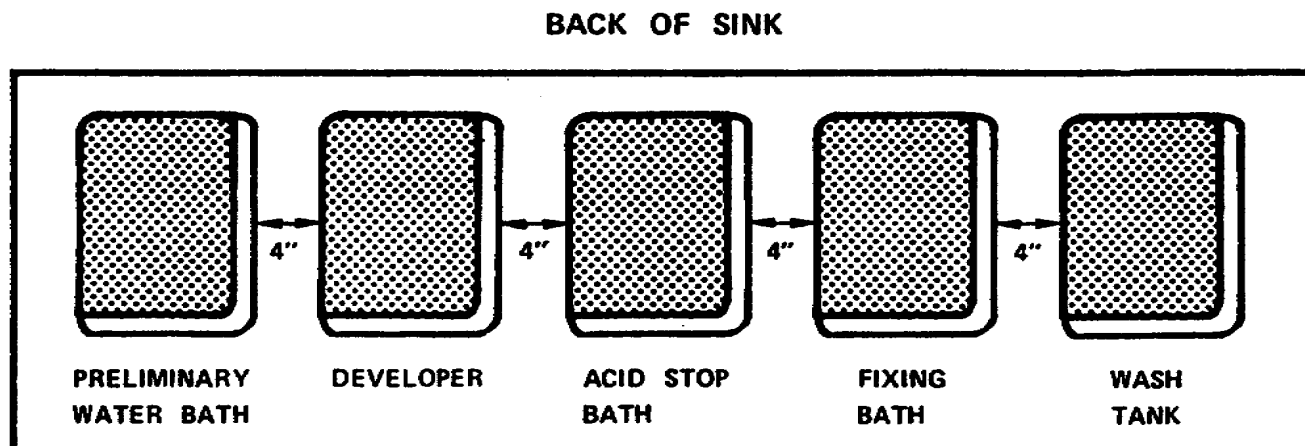

Figure 1-10. Arrangement of trays in tray processing
(1) Preliminary water bath (presoak)
(2) Developer
(3) Stop bath
(4) Fixer
c. Arrange the trays in a row as follows: the preliminary water bath, the developer, the acid stop bath, and the fixer last (fig 1-10).